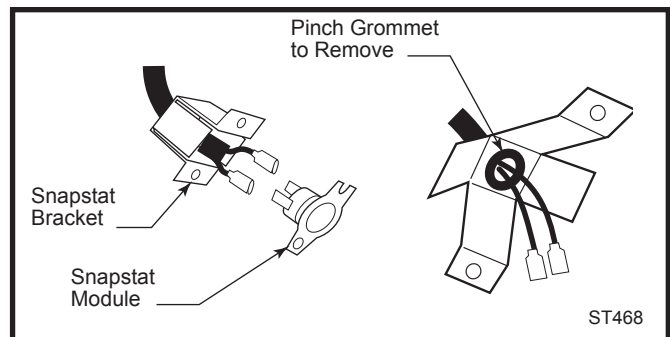

Fig. 6 Remove snapstat and grommet from bracket.
2. Disconnect the snapstat module from the leads inside the snapstat bracket. (Fig. 6)